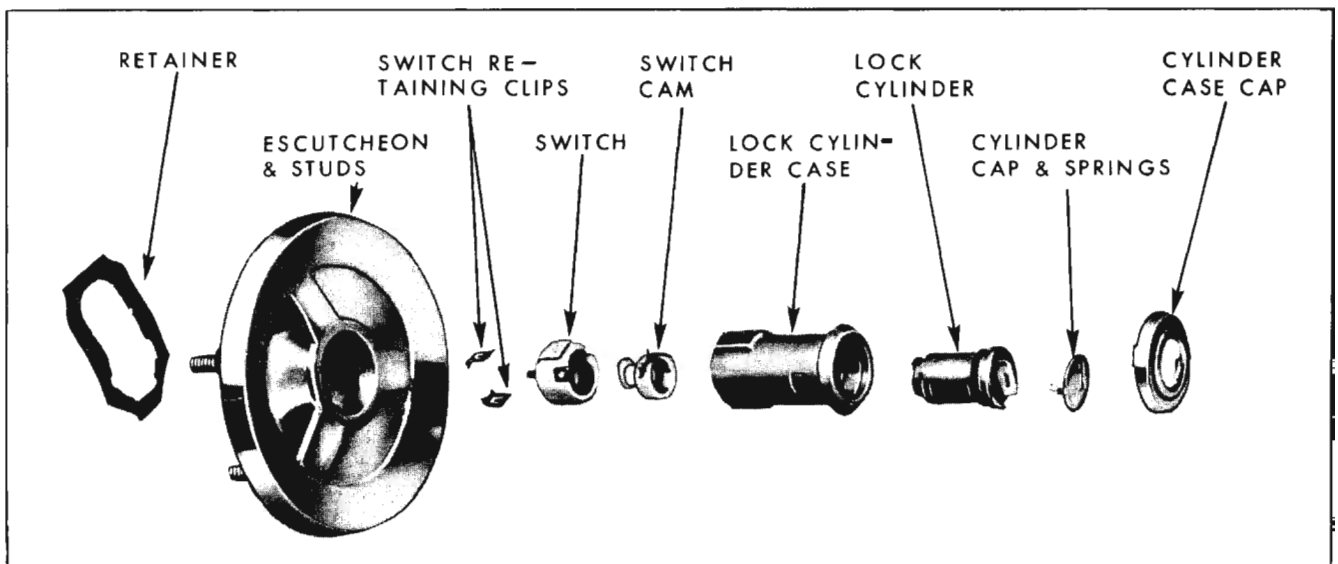

Fig. 16-198 Electric Lock Cylinder and Switch
#### Removal and Installation (Fig. 16-198)
2. Disengage lock cylinder and switch retainer and remove lock cylinder and switch assembly from escutcheon. (Fig. 16-198)
1. Using a pointed tool inserted through holes in lock cylinder case, depress tab of switch clips and remove clips. (Fig. 16-198)
2. Carefully pull switch and switch cam from lock cylinder case. (Fig. 16-198)